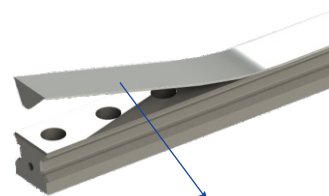

Figure 3
- 4) Protective belt plate: The protective belt plate is mainly used to seal the installation holes of the guide rail, making the top surface of the guide rail smooth and flat, without the accumulation of foreign objects, not only improving the sealing effect, but also beautiful and practical. As shown in Figure 3.